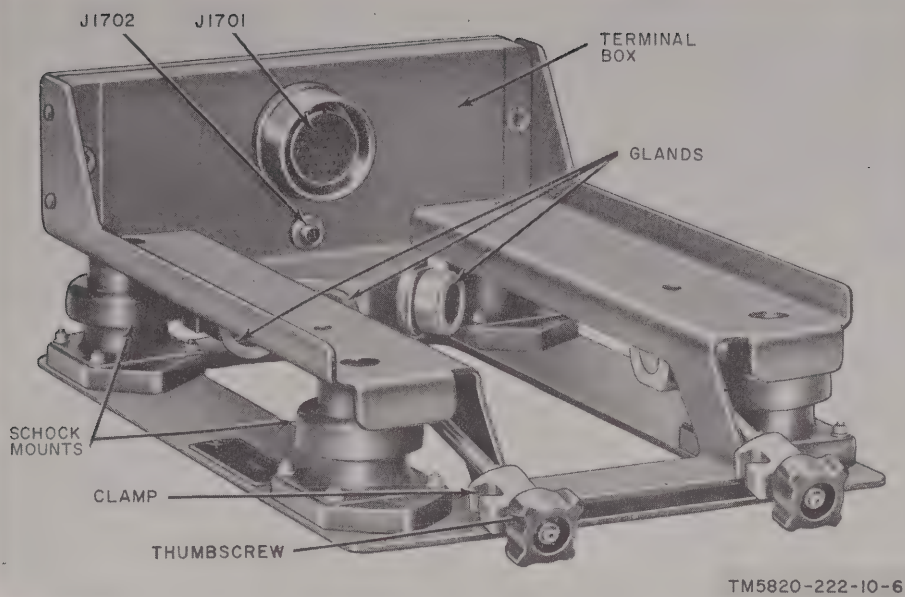

Figure 7. Mounting MT-1436/U.
12. Mounting MT-1436/U (fig. 7)